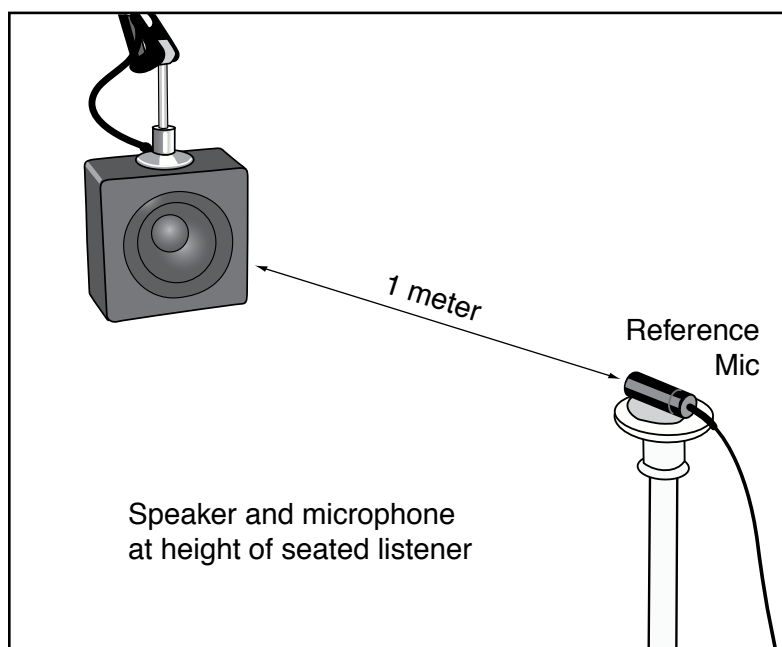

Figure 7.3.1C
3. Place the reference microphone on a stand 1 meter from the sound field speaker. Position it at the head height of a seated listener. See Figure 7.3.1C.